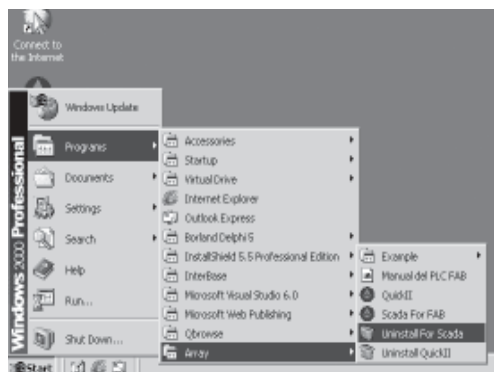
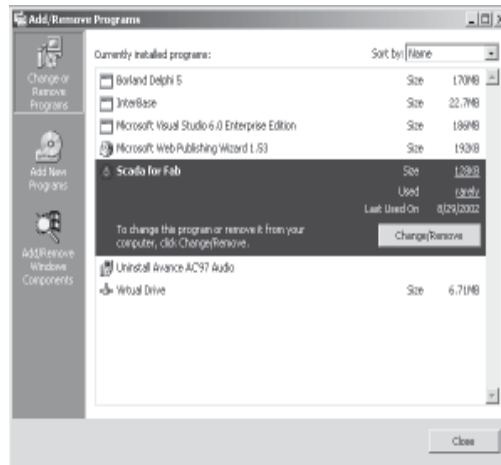

Fig. 2-8 Installation System 1
Fig. 2-9 Installation System 2
Step 7. Uninstall the system. This task needs to be run when the system is not needed or the system does not work normally. (Certainly, data need to be backed up before the uninstallation. As to backup, we will explain further in the following chapters). Click `Setup > Control Panel` in Fig. 2-8, and then click `Installation` to enter the interface in Fig. 2-9. Select `SCADA for FAB Setup` while installation) in the Listing Frame and then click `Add/Delete`.